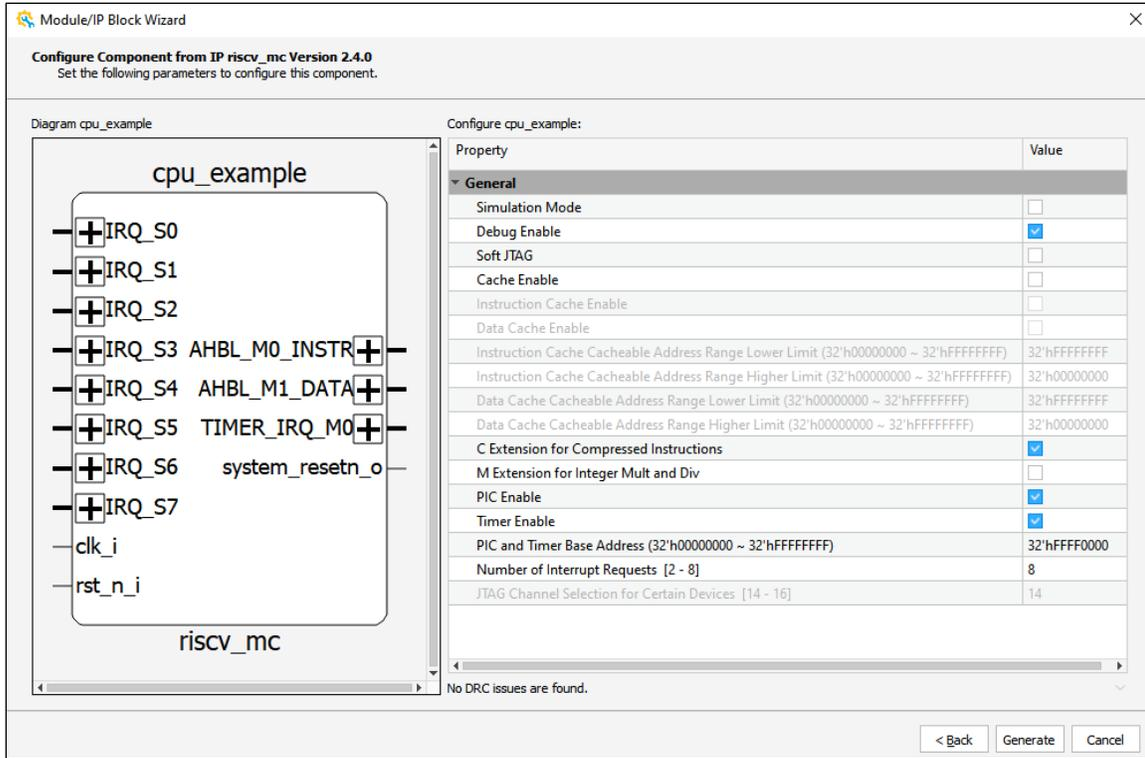

Figure 3.2. Configuring Parameters
3. Configure the parameters, as shown in Figure 3.2. Click **Generate**.
1. In Propel Builder, enable **Soft JTAG** in the IP block Wizard GUI (Figure 3.2) when generating the IP.